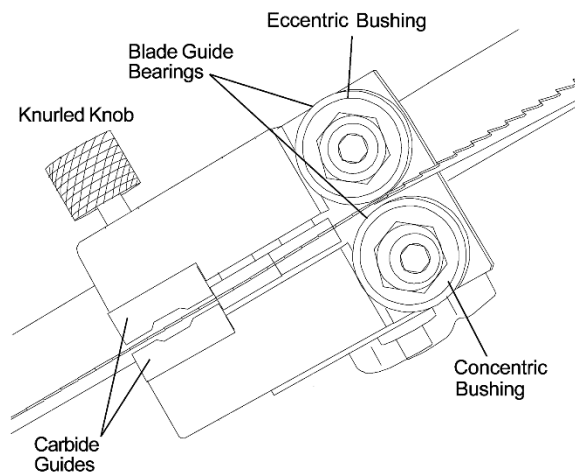

Figure 8-4
3. On the inner bearing guide, hold the bushing with the 19mm wrench and loosen the center locking screw with a hex wrench (see Figure 8-4).